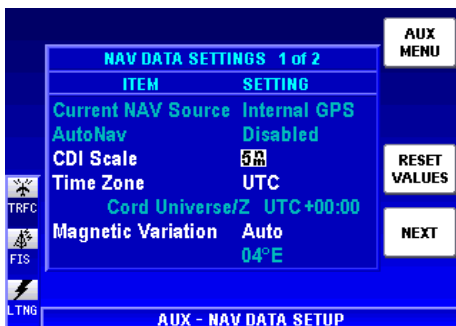

Figure 1-46
3. Press the **SELECT** Softkey to display Figure 1-46.